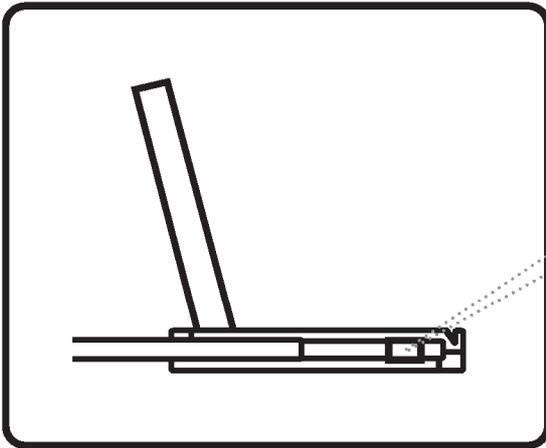

Figure 1.
- A black arrow release button is located on the outside of each slide. (shown in Figure 1).